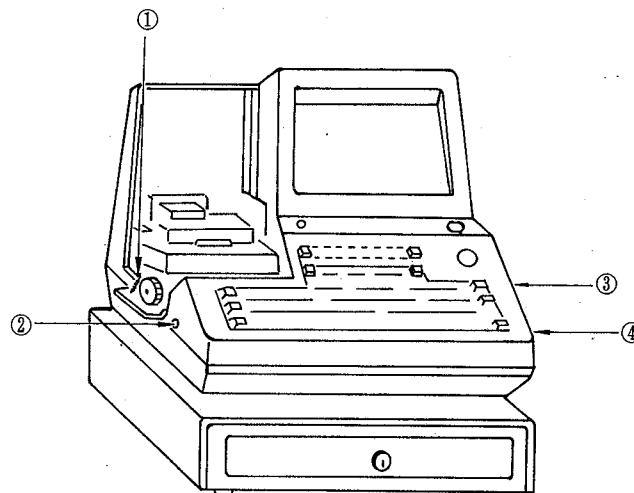

Fig. 39
- 3) Remove the screws (4 pcs.) as shown in Fig.39 and remove the upper cabinet.